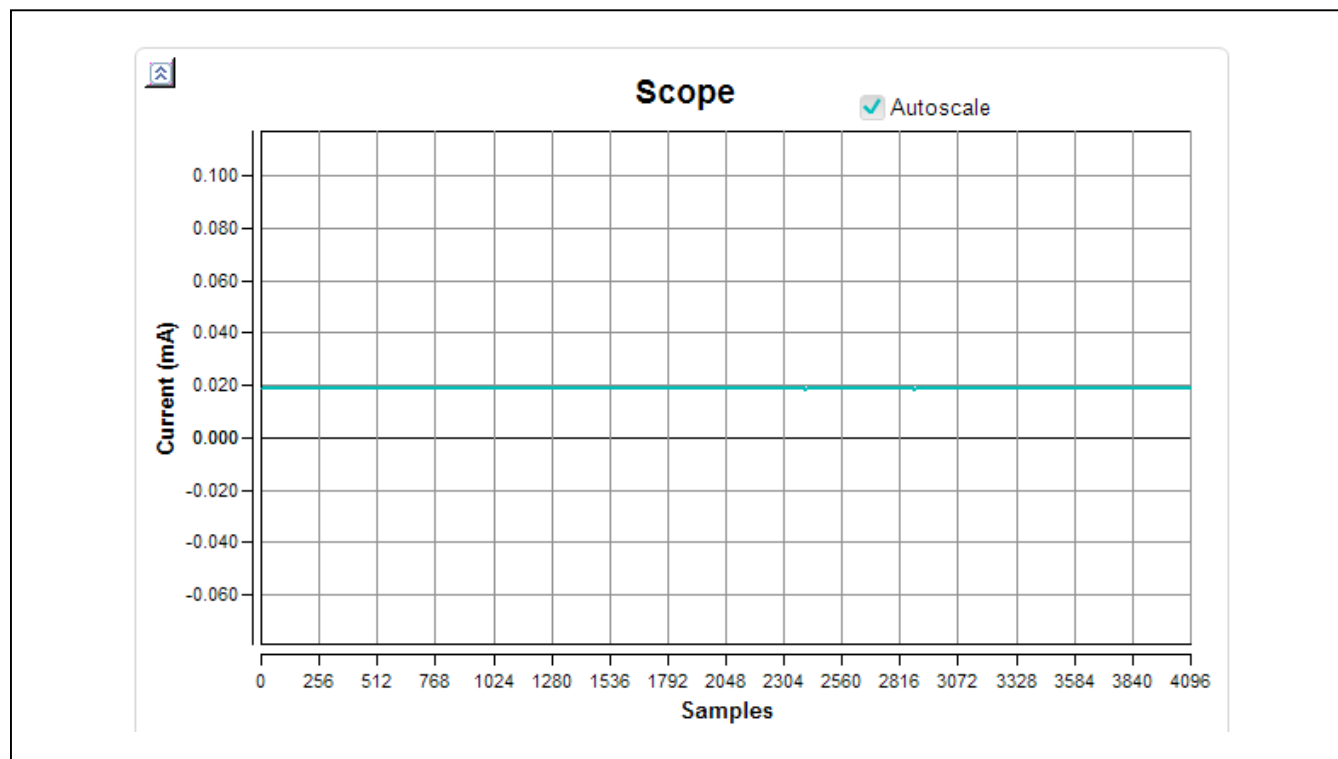

Figure 9. Real Time Scope GUI
- 5) **Real Time Scope:** The scope on the bottom left side of the GUI represents the measured data with number of samples in X-axis and Y-axis is selected from the available plot configurations options. Figure 9 depicts the options that determine the Y-axis in the scope.